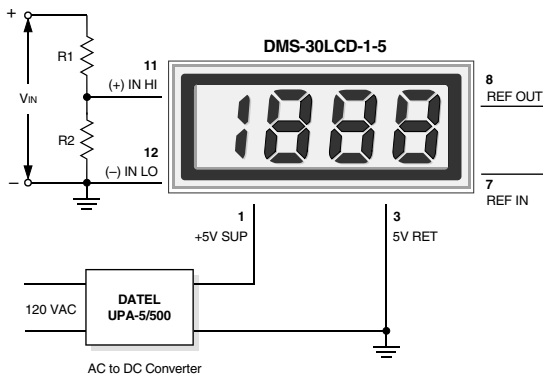

Figure 4. Input Attenuation Circuit
- 3. Engineering Scaling:** For measuring voltages greater than the full scale input range of a given meter, the input signal must be attenuated. A simple voltage divider (similar to that shown in Figure 4) will scale the input to within the range of the selected meter. R1 and R2 should be precision,  $\pm 1\%$ , metal-film resistors with absolute TCR's less than 50ppm/°C. See Ap Note 4 for more information on engineering scaling.